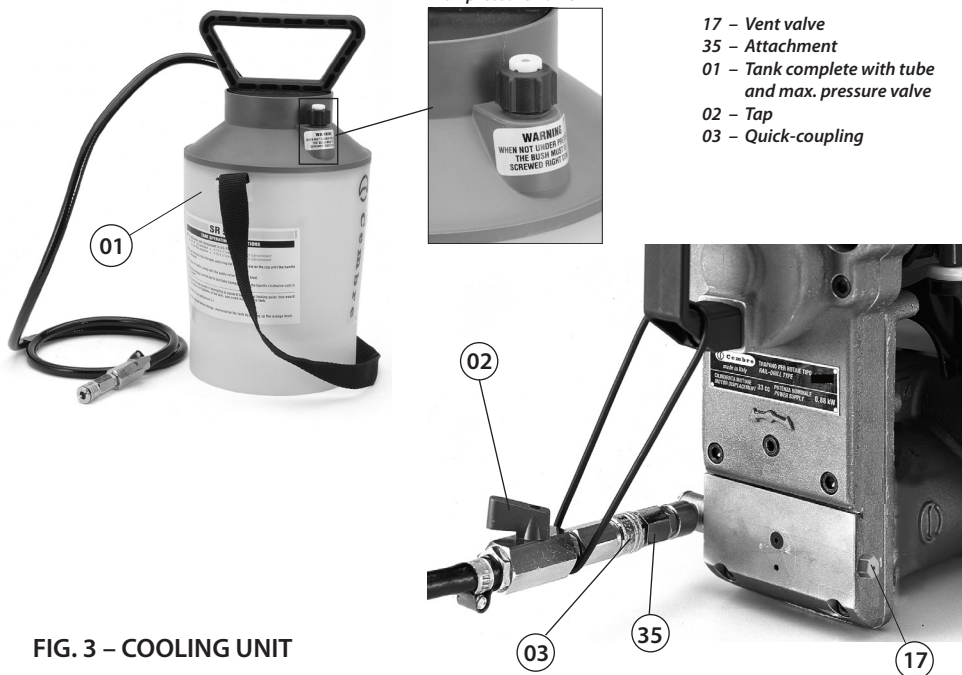

FIG. 3 – COOLING UNIT
## 4. TYPE SR5000 COOLANT UNIT (Ref. to Fig. 3)
- *The drill is equipped with a coolant attachment valve (35) and a vent valve (17) which are located as shown (Fig. 3).*